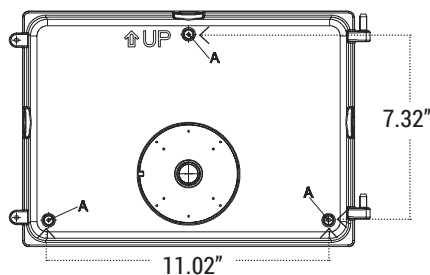
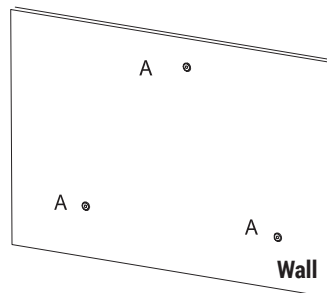

Fig 2
Fig 3
**METHOD 1:** Drill holes at the three "A" mounting points on the rear housing (Fig 2), and drill holes on the wall as per the hole locations on the rear housing (Fig 3).